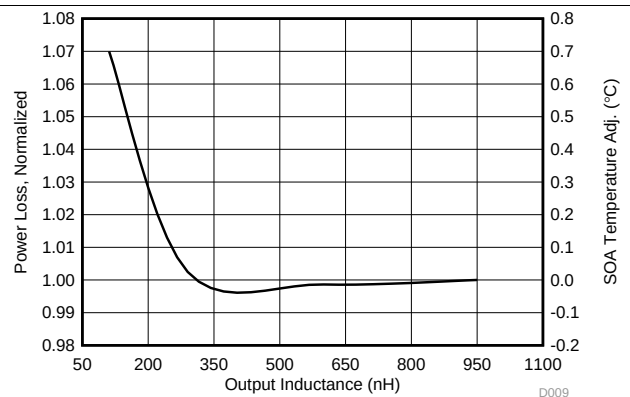

Figure 7. Normalized Power Loss vs Output Inductance
- Normalized power loss for output inductor ≈ 1.0 (Figure 7)
- SOA adjustment for output inductor $\approx 0.02^\circ\text{C}$ (Figure 7)